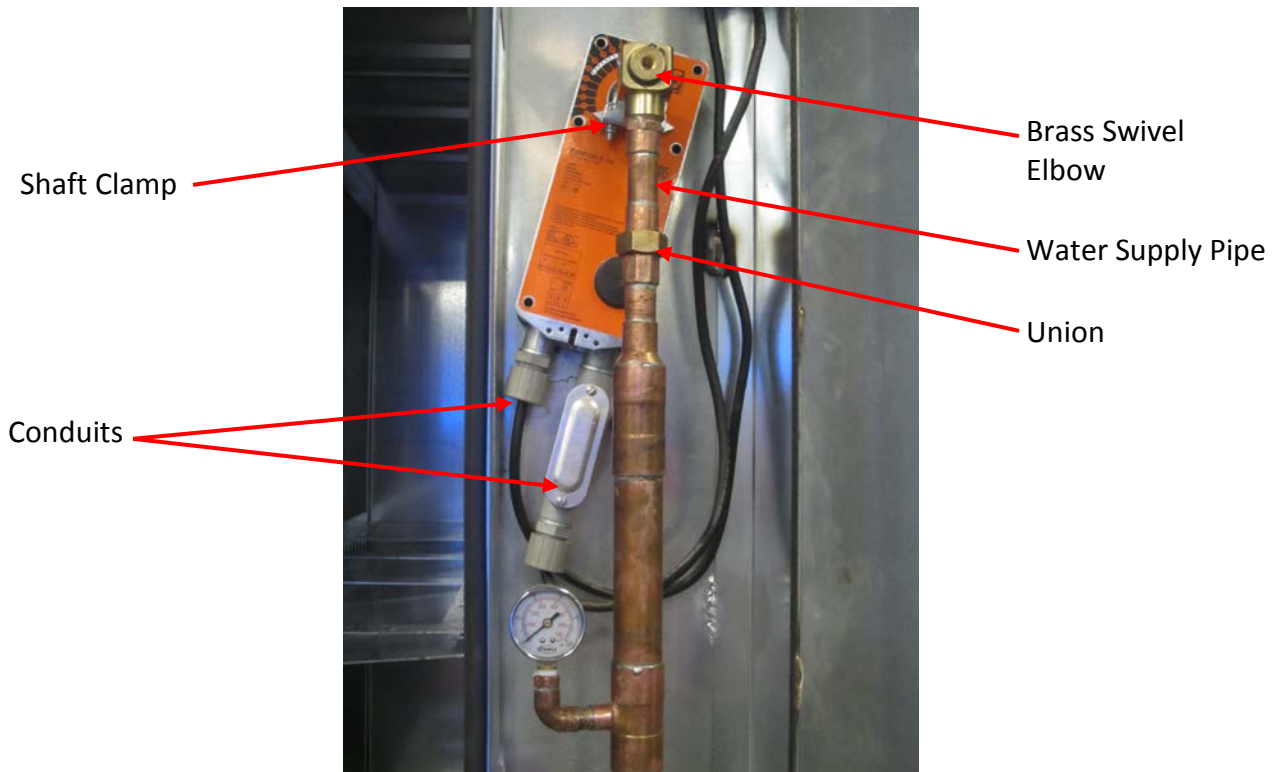

Figure 4-39-1
- b) Initiate a wash cycle and check to see if the motor drive is moving and that the clamp is holding the manifold so the manifold is moving back and forth (Refer to Figure 4-39-1).
- 4) Disconnect the water supply pipe at the union (Refer to Figure 4-39-1).
- b) Disconnect the water supply pipe at the union (Refer to Figure 4-39-1).